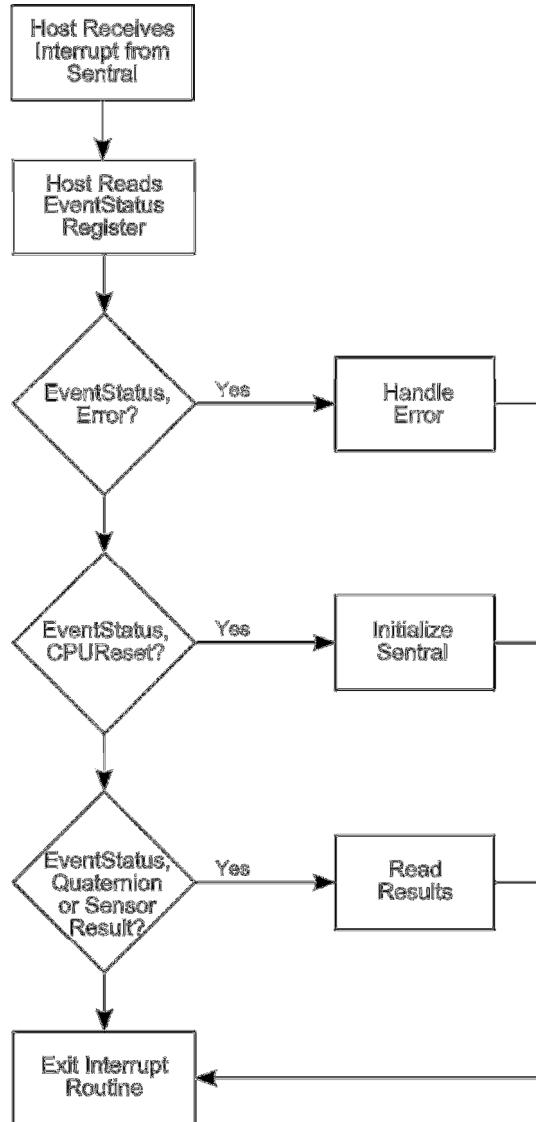

Figure 5-3: SENtral Normal Operation Flow
- d) Interpret and act on the EventStatus register in the priority shown in Figure 5-3. If bit [1], the Error bit, is '1', see Section 0. If bit [0], the CPUReset bit, is '1', see Section 5.3.2. If bits [2], [3], [4], or [5], the Results bits, are '1', see Section 0.
Note that reading the EventStatus register clears it. It is possible for more than one bit position to be '1' in the EventStatus register, especially if the host does not always read the EventStatus register after receiving an interrupt. Similarly, if multiple bits are set to '1' in the EventStatus register, once the register is read all the bits will be set to '0'. For this reason the EventStatus register should be processed in the priority shown in Figure 5-3, as information will be cleared for events that are not handled.